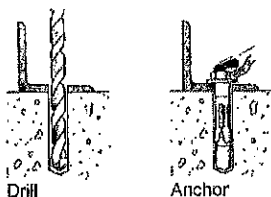

Figure 3. Illustration of drilling process to drill hole in concrete and anchor bolt to secure yoke.
7. Move yoke frame, drill holes and install anchor bolts in concrete. Refer to Figure 3 for illustration of drilling and bolt anchoring process. If mounting bed frame to a wood floor, drill pilot holes to accommodate lag screws.